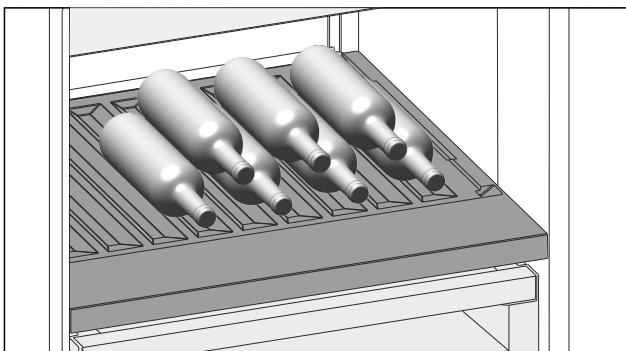

Fig. 158
- ▶ Insert the bottles facing backwards towards the rear wall. (see Fig. 158)